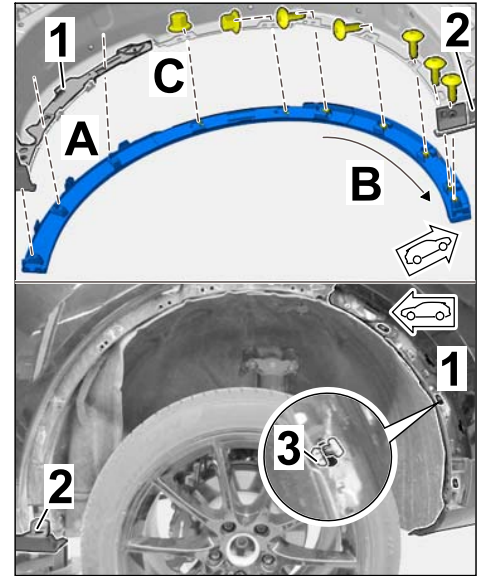

Figure 8
- 3.3 Clip wheel cover into brackets on rear apron (3 x ⇒ *Figure 8-A-*).
- 3.4 Screw TP4 x 14 screws (5 x) into the remaining clips on the wheel cover in accordance with the tightening sequence (⇒ *Figure 8-B-*).
- 3.5 Screw A5 hexagon nut (1 x) onto the second T-bolt (⇒ *Figure 8-C-*).